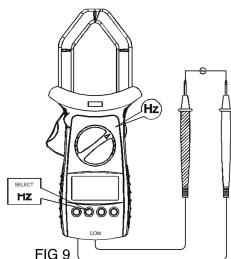

FIG 9
G. Frequency Measurement (See figure 9)